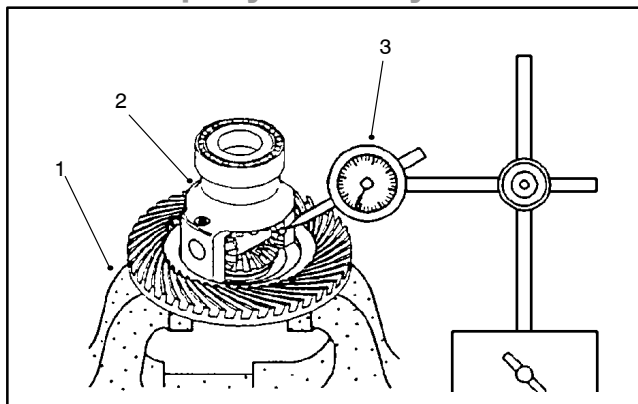

Figure 37
5. Secure the differential case in a soft jawed vise. Position a dial indicator on a tooth of the differential pinion gear. Press the pinion and side gear against the differential case and measure the pinion gear to side gear backlash (Fig. 37).